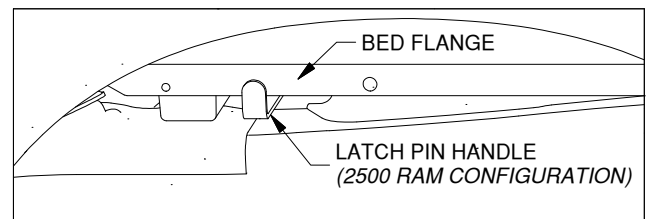

Figure C3: View looking into driver side wheel well.
- 4a. **2500 RAM handle installation.** Once the handle is past the bed flange, as shown in Figure C3, move to the outside of the truck. The handle will need to be pulled under the plastic fender liner. Pull up on the bottom edge of the liner until it is possible to pull the handle out past the fender liner.